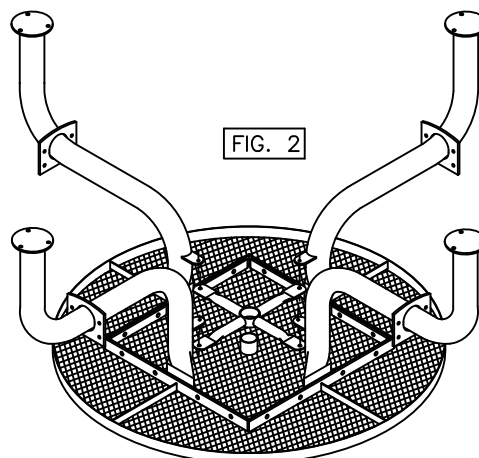

FIG. 2
Attach Spyder cross brace (D) to the inverted top side of the mounting tabs using one (G), (I), (J) and (H), see FIG. 2. After all parts have been secured carefully rotate the table to its upright position.